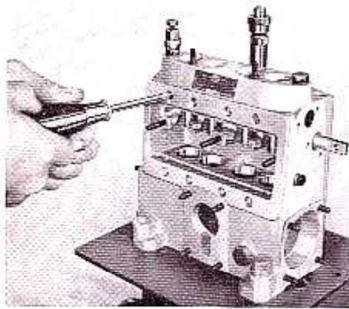

FIG. 10. UNSCREWING THE BARREL LOCKING SCREWS
23. Remove the barrel locking screws (6) and pushing the barrels upwards, withdraw them from the pump housing (Figs. 10 and 11).